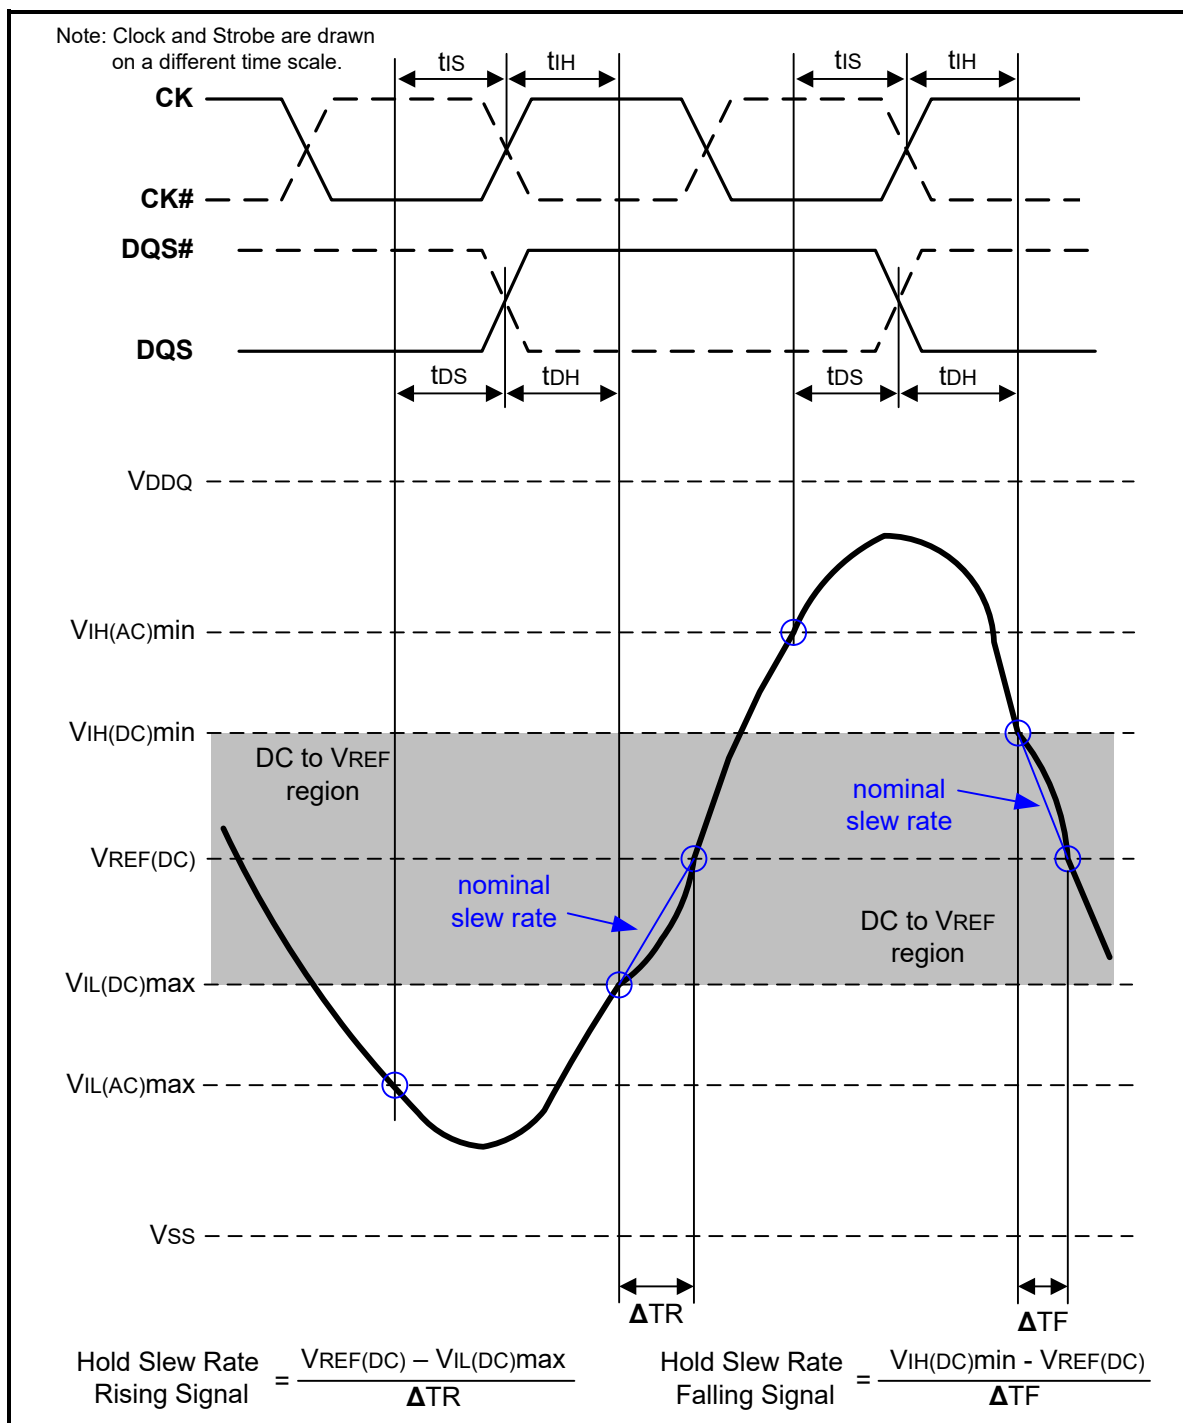
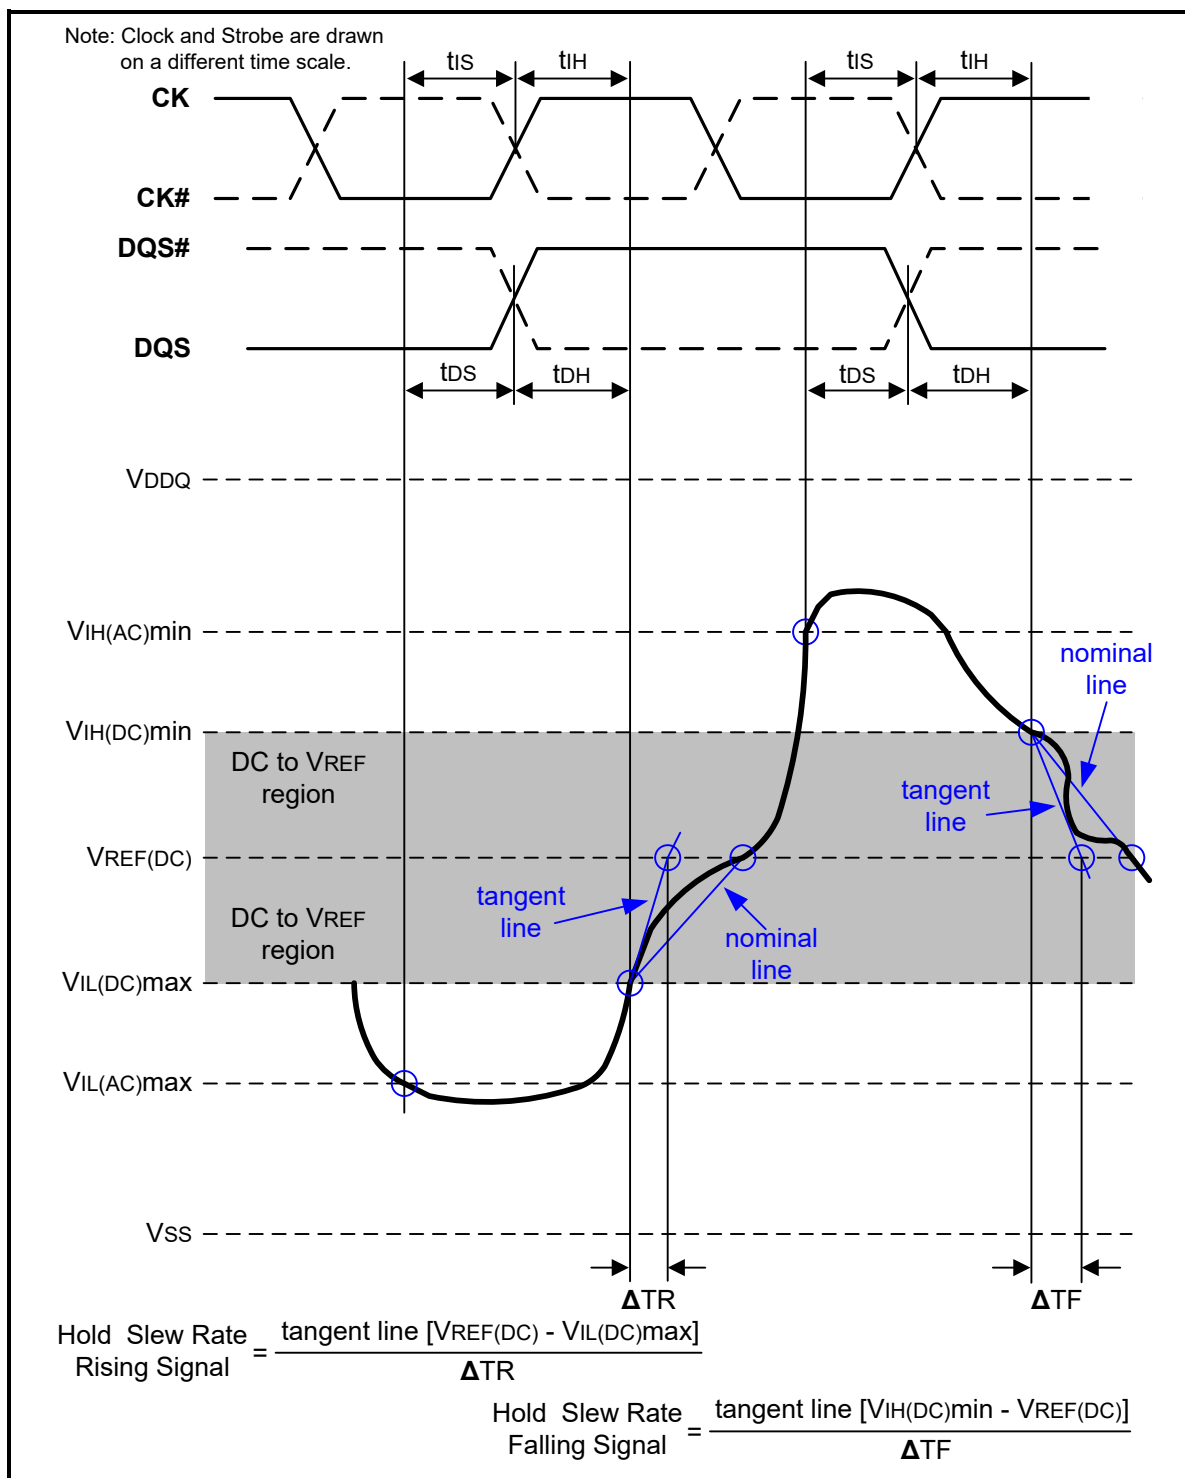

Figure 108 – Illustration of nominal slew rate for hold time t_{DH} (for DQ with respect to strobe) and t_{IH} (for ADD/CMD with respect to clock)
Figure 110 – Illustration of tangent line for hold time t_{DH} (for DQ with respect to strobe) and t_{IH} (for ADD/CMD with respect to clock)
Hold (t_{IH}) nominal slew rate for a rising signal is defined as the slew rate between the last crossing of $V_{IL(DC)max}$ and the first crossing of $V_{REF(DC)}$. Hold (t_{IH}) nominal slew rate for a falling signal is defined as the slew rate between the last crossing of $V_{IH(DC)min}$ and the first crossing of $V_{REF(DC)}$. If the actual signal is always later than the nominal slew rate line between shaded 'DC to VREF(DC) region', use nominal slew rate for derating value (see Figure 108). If the actual signal is earlier than the nominal slew rate line anywhere between shaded 'DC to VREF(DC) region', the slew rate of a tangent line to the actual signal from the DC level to $V_{REF(DC)}$ level is used for derating value (see Figure 110).
Hold (tDH) nominal slew rate for a rising signal is defined as the slew rate between the last crossing of VIL(DC)max and the first crossing of VREF(DC). Hold (tDH) nominal slew rate for a falling signal is defined as the slew rate between the last crossing of VIH(DC)min and the first crossing of VREF(DC) (see Figure 108). If the actual signal is always later than the nominal slew rate line between shaded 'DC level to VREF(DC) region', use nominal slew rate for derating value. If the actual signal is earlier than the nominal slew rate line anywhere between shaded 'DC to VREF(DC) region', the slew rate of a tangent line to the actual signal from the DC level to VREF(DC) level is used for derating value (see Figure 110).